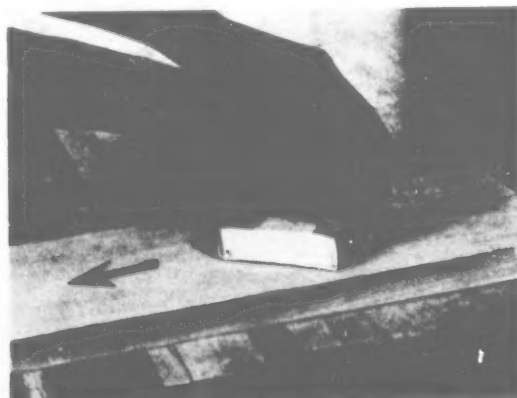

Figure 14-4 Using a sanding block
2. Using the sanding block and sandpaper, make long, even strokes with the grain of the wood. (Figure 14-4).